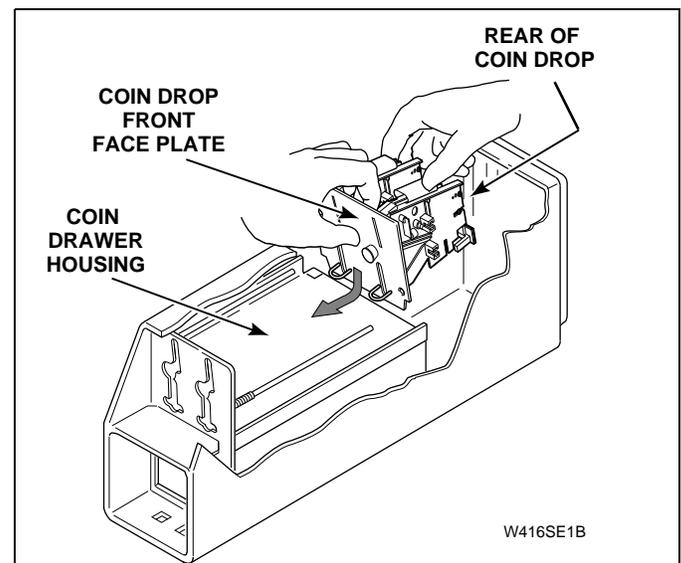

Figure 22
- (5.) Lift up front face plate of coin drop with one hand, while gently pushing down rear of drop with other hand, so the bottom of the drop's front face plate clears coin drawer housing. See *Figure 22*.